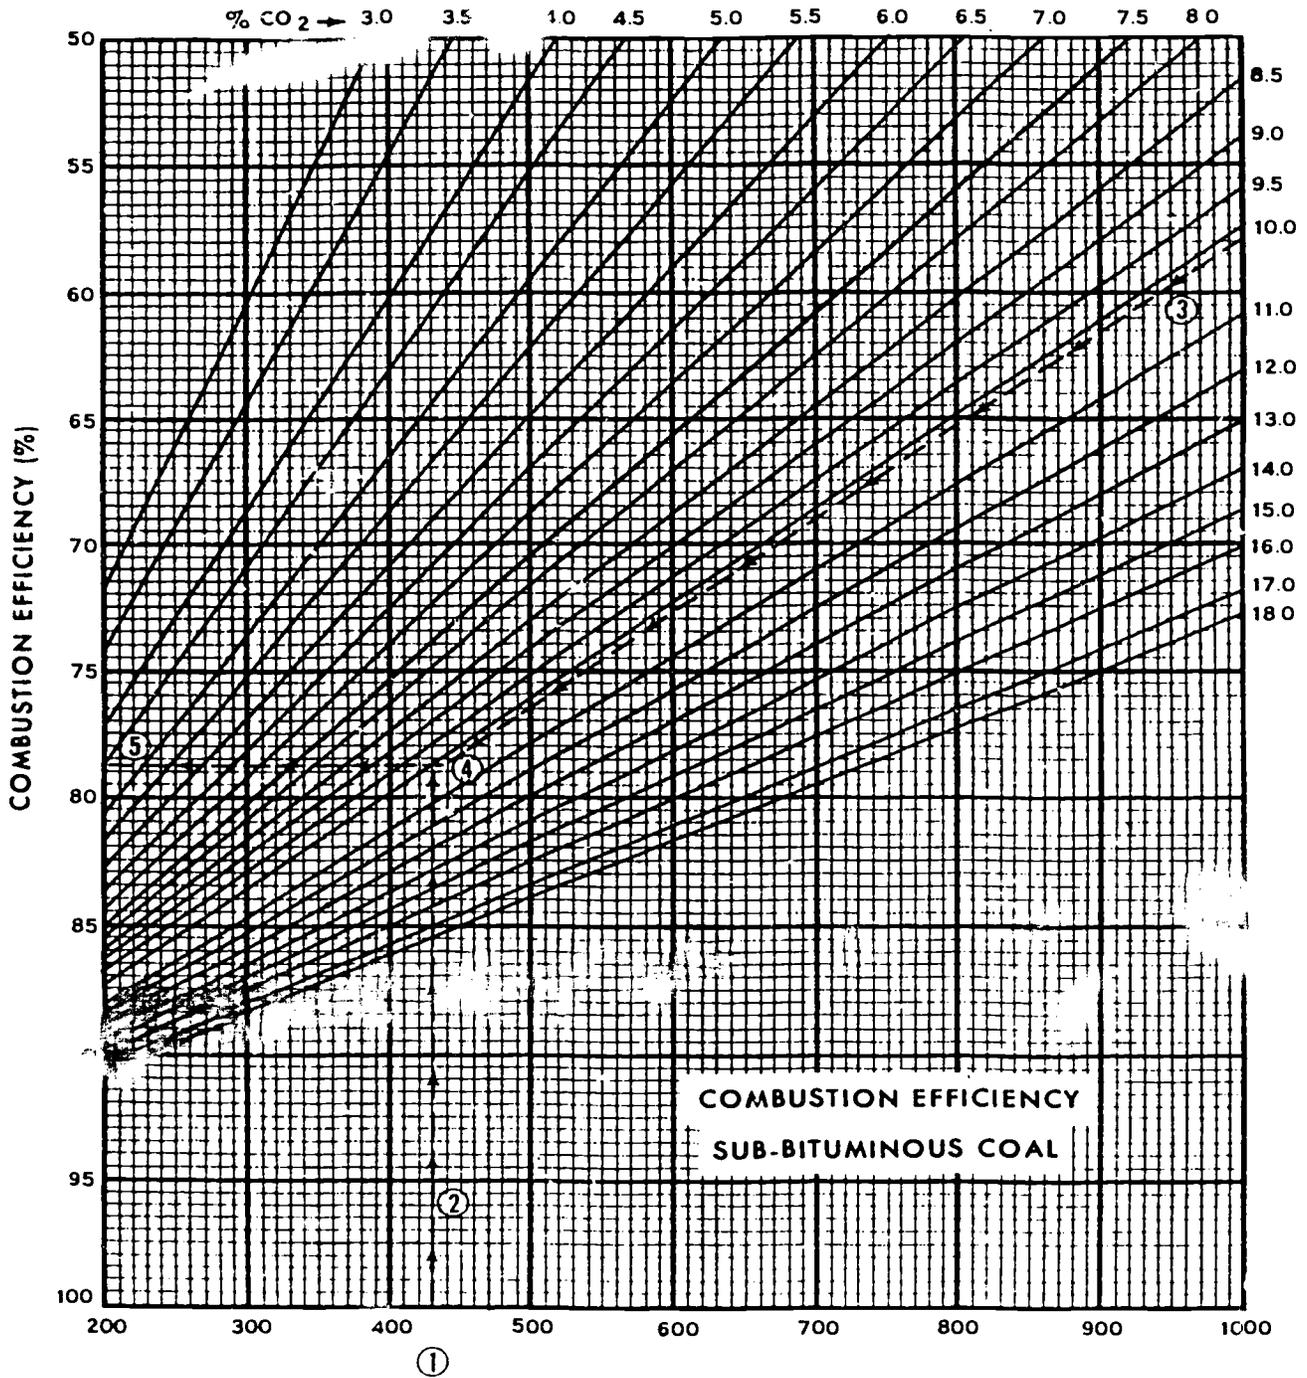

Figure 4. A Graph Used to Determine the Combustion Efficiency of a Heating System Firing with Subbituminous Coal
2. The following Combustion Efficiency Graphs (figures 4 through 6) may be used to determine the combustion efficiency when burning the more common fuels. When using these graphs, it is necessary to know: first, the percentage of the CO₂ in the flue gas; second, the temperature of the flue gas; third, the room temperature; and fourth, the type of fuel being used. With this information, determine the combustion efficiency in the following manner:
- e. Draw a horizontal line to the left-hand scale from where the two lines intercept. The point at which the horizontal line crosses the left-hand scale represents the percentage of combustion efficiency. See figure 4.